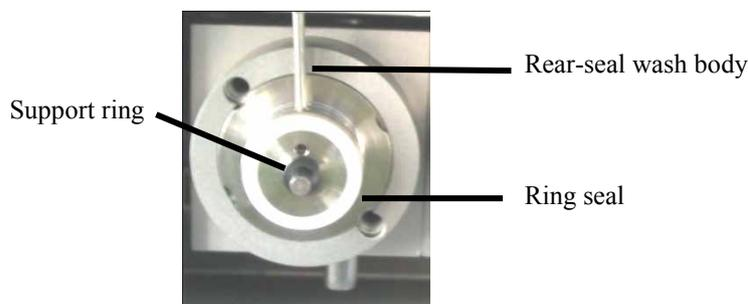

Fig. 45: Pump head removed
- Carefully remove the rear seal wash body from the piston (→ Fig. 45), by pulling it toward you.
7. Verify that the uninstalled pump head has no seal installed (for example, the old seal) and that the white ring seal is on the rear seal wash body (→ Fig. 45, page 120).